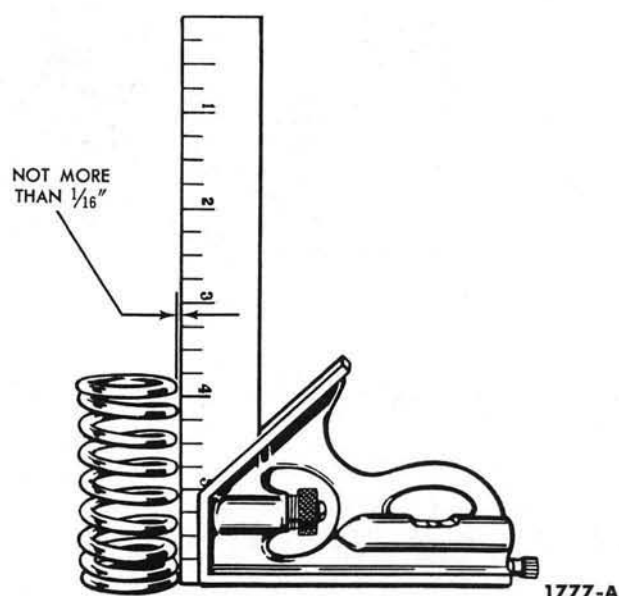

FIG. 14—Valve Spring Squareness
**Valve Spring Squareness.** Check each spring for squareness using a steel square and a surface plate (Fig. 14). Stand the spring and square on end on the surface plate. Slide the spring up to the square. Revolve the spring slowly and observe the space between the top coil of the spring and the square. If the spring is out of square more than  $\frac{1}{16}$  inch, replace it.